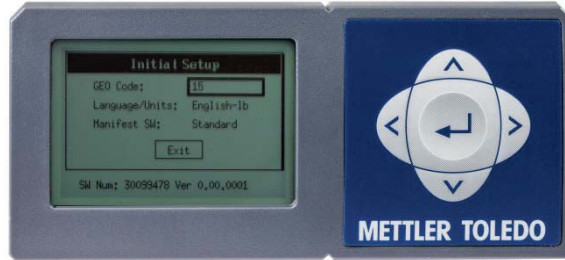

Figure 2-7: Initial Boot Screen, Graphical Display
- If the initial boot screen (Figure 2-7) is displayed, the scale will prompt for the entry of a Geo code. If enabled, the scale will also prompt for the entry of language, unit selection and the manifest software program the scale will communicate to.